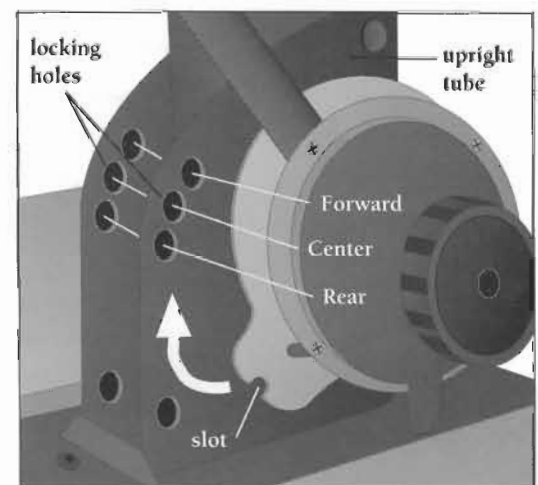

Figure 4
3. Align the slot in each of the arm-exerciser poles with either the center or rear sets of holes in the base of the upright tube (Figure 4).